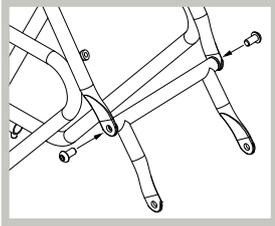

Figure 1
1. Loosely attach main rack frame to front rack arms using two (2) M6 bolts. Do not tighten bolts. (Figure 1)